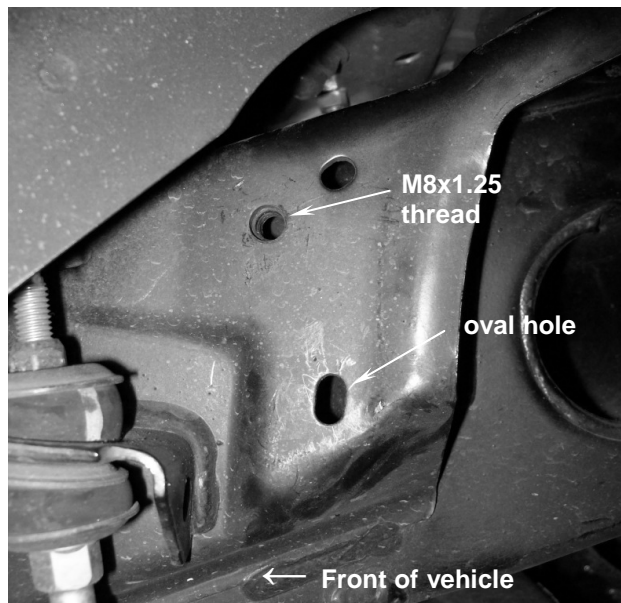

Figure 4
- E. Figure 4 shows the vehicle frame rail on the driver side toward the front of the wheel well. There are two existing holes in the frame rail that will be used to secure the reservoir bracket. The upper hole has an M8x1.25 thread, the lower hole is oval and has no threads.